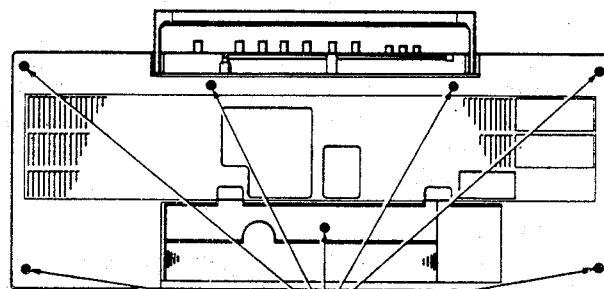

Fig. 4
2) The rear case can be removed by removing 7 screws (A) shown in Fig. 4.